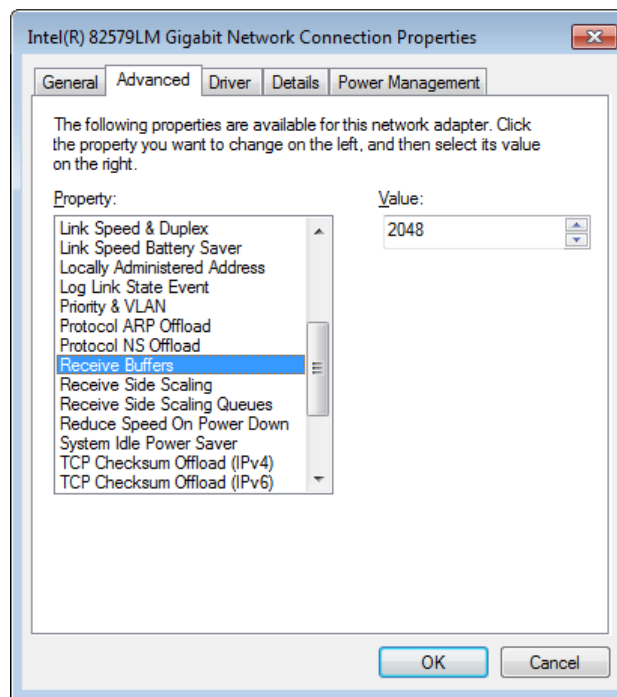

Figure 111: Network interface card - advanced driver settings - Receive Buffers
4. The settings of the driver can be accessed by choosing the *Advanced* tab of the opened window. As shown in Figure 111, raise the value of the *Receive Buffers* property to its maximum value.